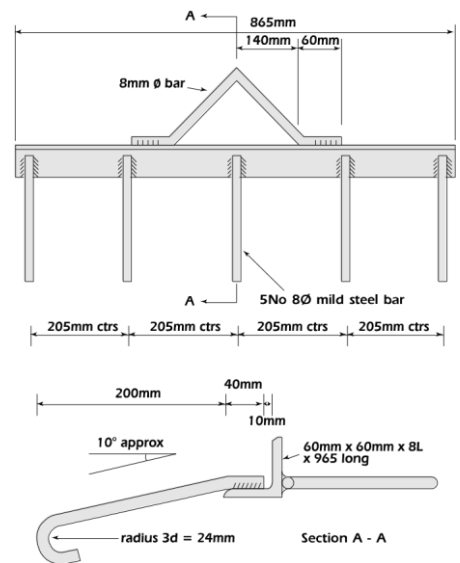

Figure 5 Tensioning Beam
21. The Tensar geogrid should be lightly tensioned using the tensioning beam supplied (Figure 5), so that the moulded geogrid connectors are pulled up against the rear of the rebate.